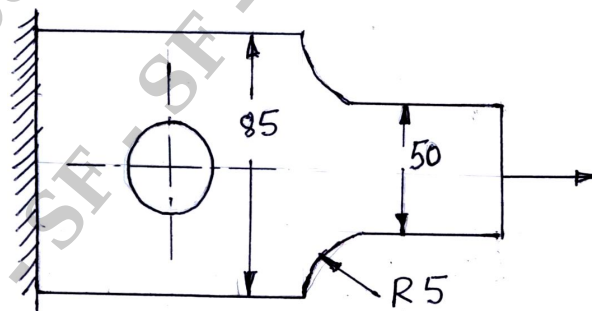

Fig.Q2(b)
- b. Find the diameter of the hole in Fig.Q2(b) if the stress concentration factor at the hole is to be same as at the fillet.